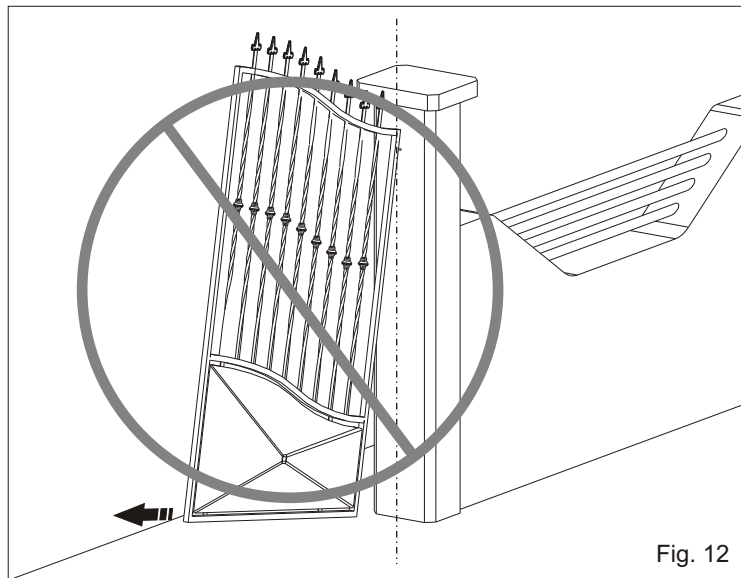

Fig. 12
3.8. Be careful not to place the leaf outside the axis (Fig. 12 and 13), but make sure the shaft corresponds to the hinge rotation axis remembering that the minimum distance from the pillar is 60 mm (Fig. 14).